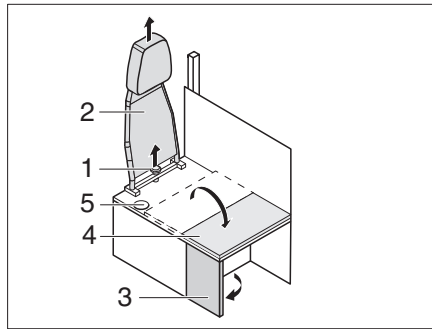

Fig. 200 Conversion drive - living mode
- Unscrew the star screw (Fig. 200,1) and remove the backrest (Fig. 200,2) towards the top.
- Fold out the side panel (Fig. 200,3).
- Fold the seat bench extension (Fig. 200,4) to the side panel.
- ▷ When converting from living to travel mode proceed in the reverse order. Make sure that the safety belt is lead through the opening (Fig. 200,5).